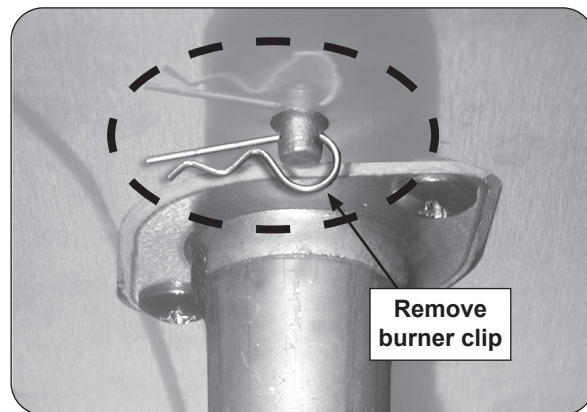

Fig. 33-1 Remove burner clip
3. Reach up under the burner support and remove the burner retaining clip (see Fig. 33-1), located at the rear of the burner pipe.
7. Replace the burner retaining clip (underneath burner). Reference Fig. 33-1.